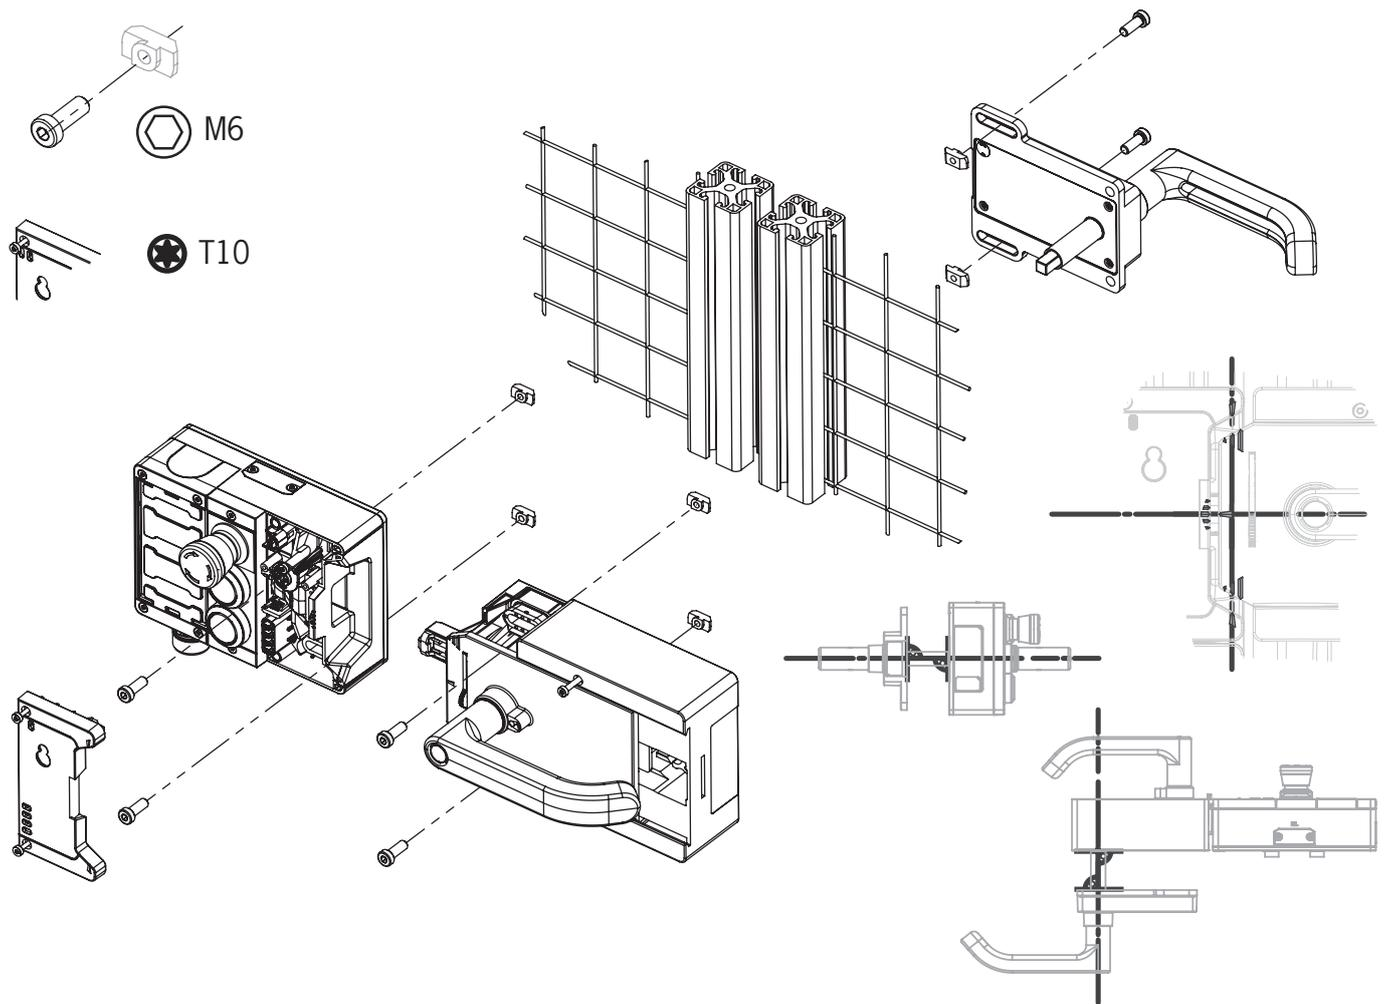
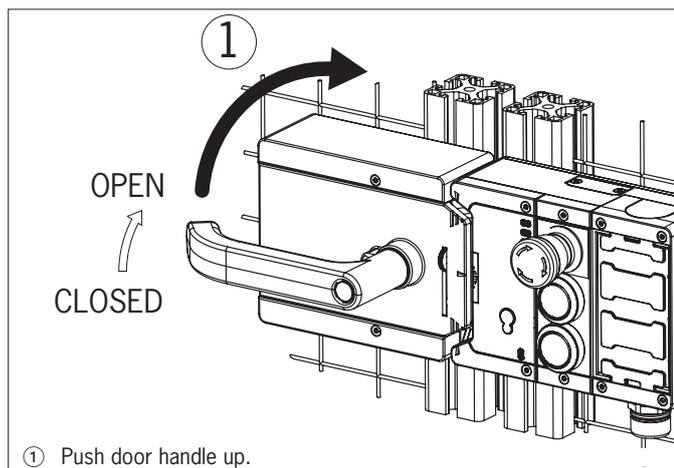
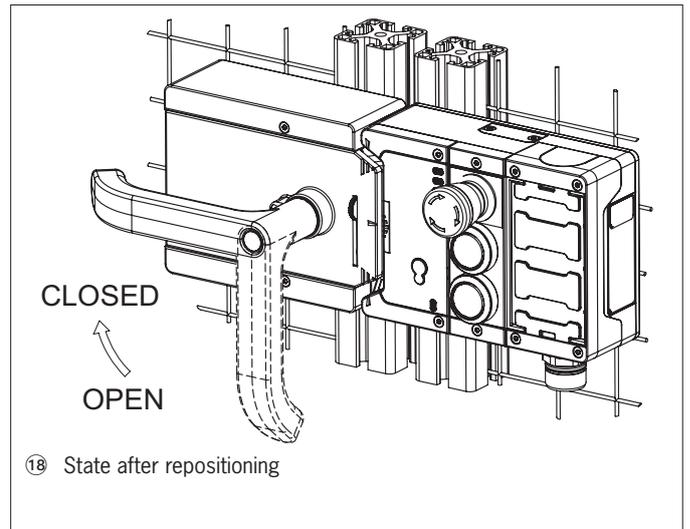

Fig. 10: Installation example for door hinged on the right (general view)
Fig. 13: Changing actuating direction, step ①
Fig. 22: Changing actuating direction, final state
- › Adjust escape release axis at right angles to the handle module. See *Fig. 10.*
For mounting steps, see Fig. 10 and Fig. 13 to Fig. 22.
- The system is mounted the other way up for doors hinged on the left. In other words, the guard opens by pressing up the door handle (see Fig. 13). For this reason the actuating direction of the door handle must be changed (see Fig. 13 to Fig. 22).